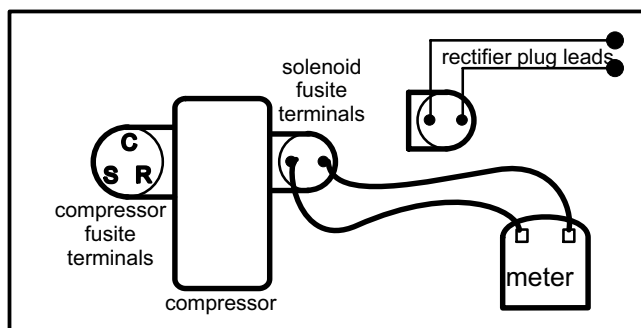

FIGURE 8
- Measure the resistance at the 2-pin fusite. See figure 8. The resistance should be 32 to 60 ohms depending on compressor temperature. If no resistance replace compressor.